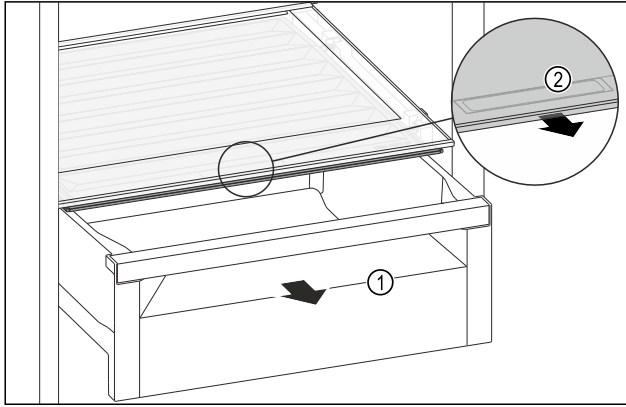

Fig. 66
- ▶ Pull out the drawer Fig. 66 (1).
- ▶ Grasp the recessed grip Fig. 66 (2) on the compartment lid and pull the compartment lid forwards at the same time.